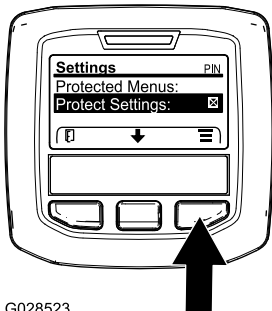

Figure 40
1. From the MAIN MENU, use the center button to scroll down to the SETTINGS MENU and press the right button (Figure 40).